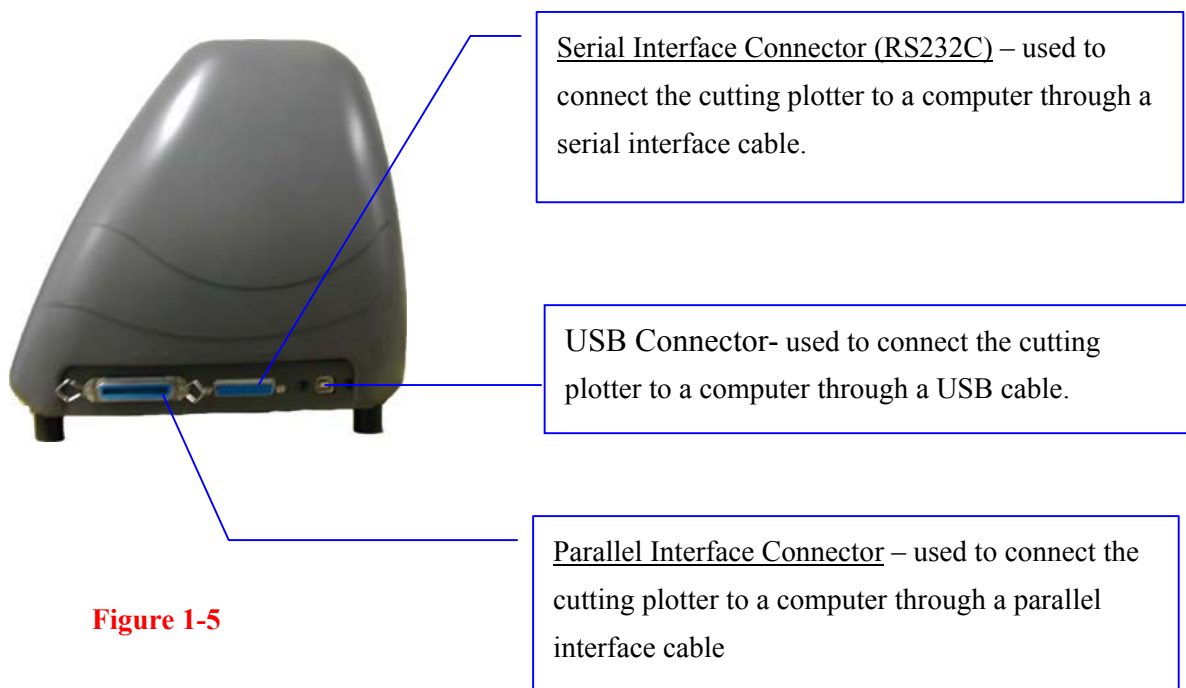

Figure 1-5
1.6 Right Hand Side of Jaguar (Figure 1-5)